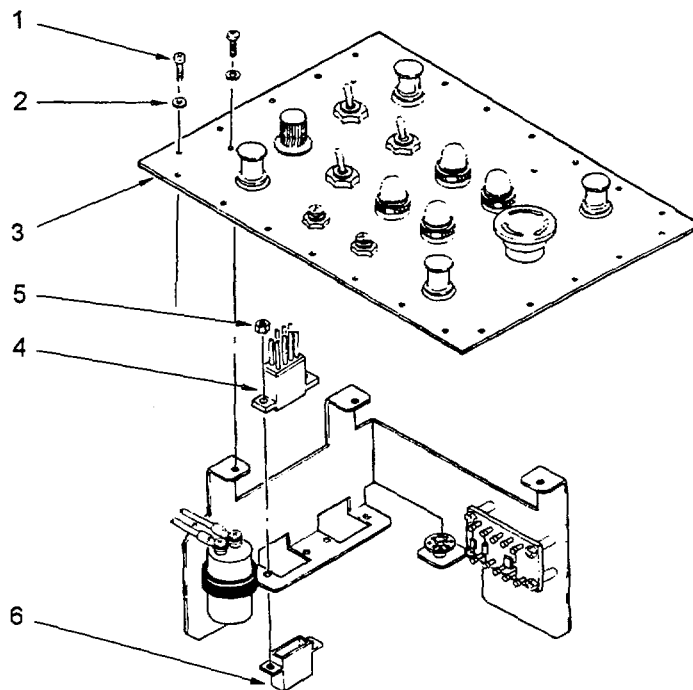

Figure 5-16. Relay K1 Replacement
5.7.7 Replace Relay K1. (Refer to figure 5-16.)